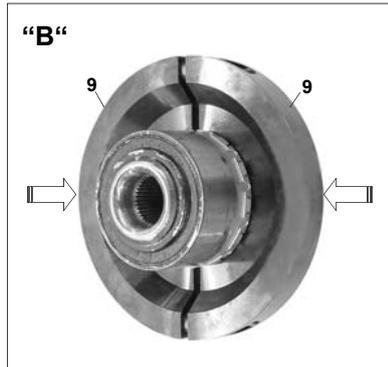

Fig. 2: Mounting the pressure screws.
2. Evenly screw pressure screws “10“ into wheel hub until pressure head of the screws engages and is properly seated in the groove of the clamping shells (**Fig. 2**). Slightly tighten pressure screws uniformly in a crosswise sequence.